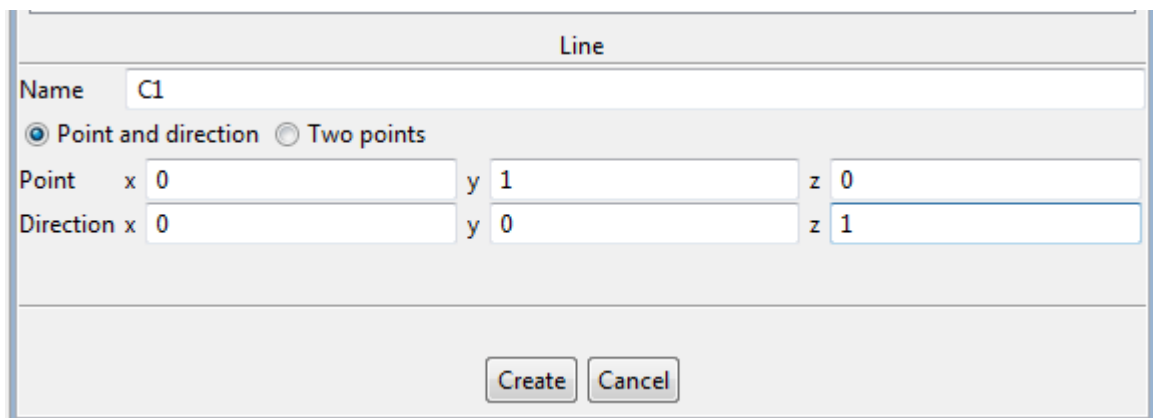

Figure 4. Line wizard with specified parameters for construction geometry element - line
- Specify parameters for the line in the **Line** wizard, which appears under the table (see Figure 4):